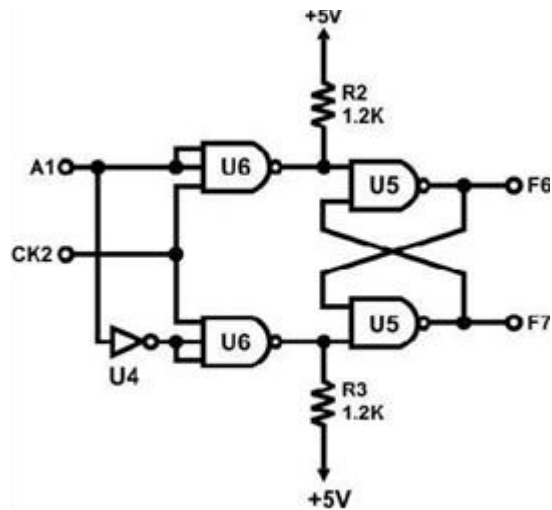

Figure 5.12: D Latch.
1. Use the KL-33008 module to construct the circuit shown in Figure 5.12.